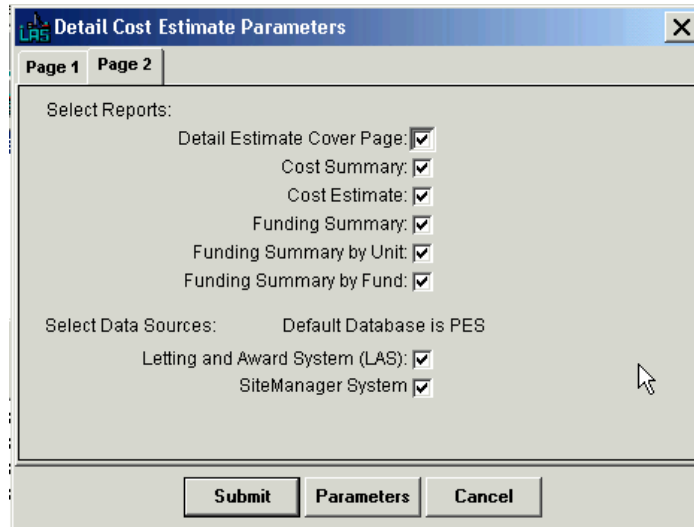

Figure 10-11. Detail Cost Estimate Parameters Window
5. Click SUBMIT to run the process (see Figure 10-11).